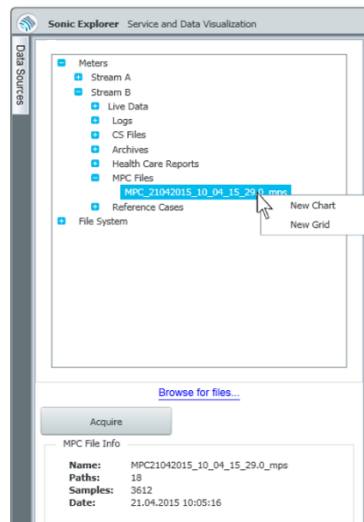

Figure 13-1 View MPC Files
- ▶ Right-click on your desired MPC File and select **New Chart**. See Figure 13-1.